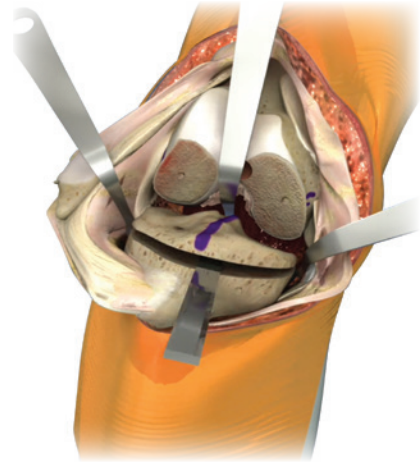

Figure 38
12. Remove the universal cutting block from the bone and clean up the proximal tibial surface (Figure 38).